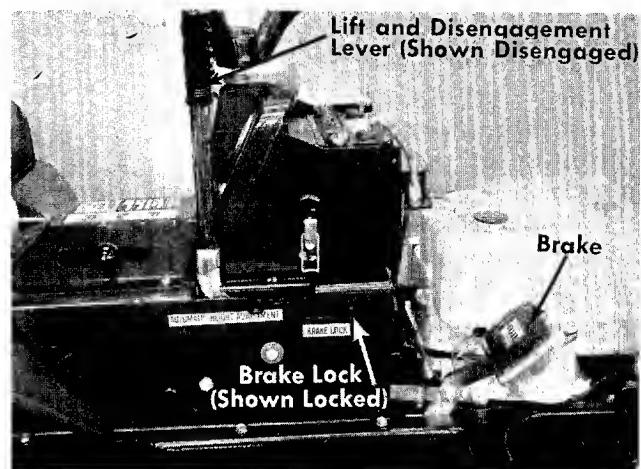

FIGURE 9. RIGHT HAND CONTROLS
c. **Brake.** The brake pedal is located on the right hand side of the mower and is operated by depressing it with your right foot. See figure 9.
d. **Brake Lock.** The brake lock is located on the right hand side of the mower. To lock the brake, depress the brake pedal and lift up the lock button. The pedal will stay depressed. To release, depress the pedal. See figure 9.
l. Lift and Disengagement Lever. It is used to raise the cutting deck. Pulling it all the way back and locking it disengages the blades. The engine will not start unless the lift and disengagement lever is in the disengaged position. See figure 9.
Step 3. Place the lift and disengagement lever in the DISENGAGED position. See figure 9.
To stop the blades, move the lift and disengagement lever (figure 9) into the DISENGAGED position. This raises the deck and disengages the blades.